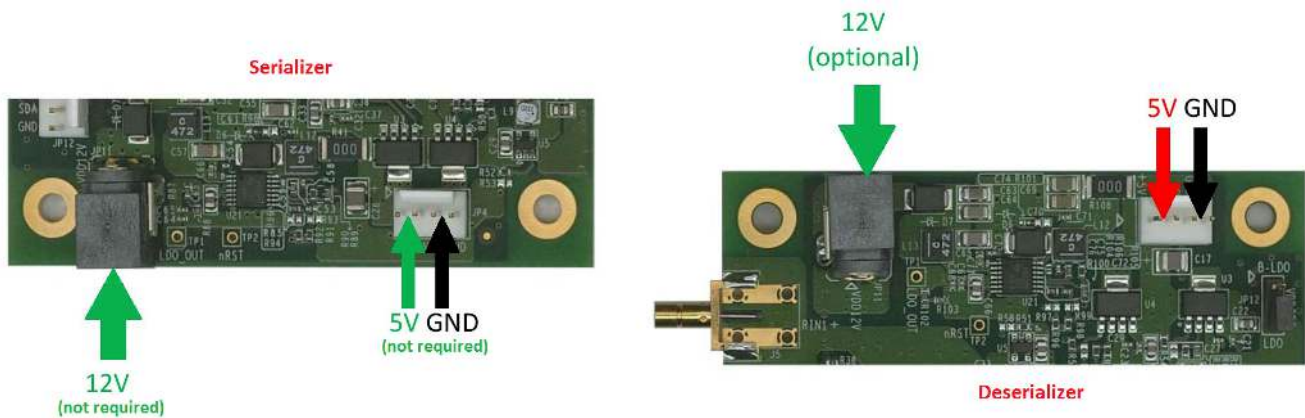

Figure 2-1. Powering DS90UB913A-CXEVM and DS90UB914A-CXEVM Boards
2. Connect the 5-V power supply to Deserializer board (recommended current limit is 300 mA) and apply power as shown in Figure 2-1.
1. Connect an external 5 V to pin 1 or 2 of JP5, on Deserializer board. (Refer to Figure 2-1)
2. Connect ground to pin 3 or 4 of JP5, on Deserializer board. (Refer to Figure 2-1)